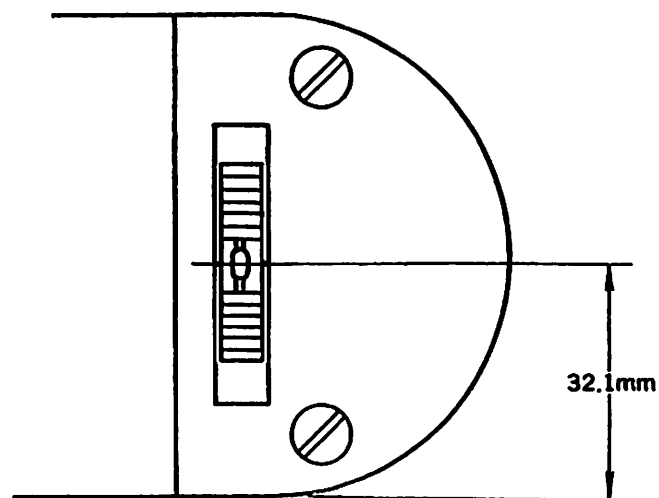

Fig. 15
4. Adjust to be 32.1mm from the edge of the needle plate to the center of the needle hole on the feed dog (see Fig. 15)